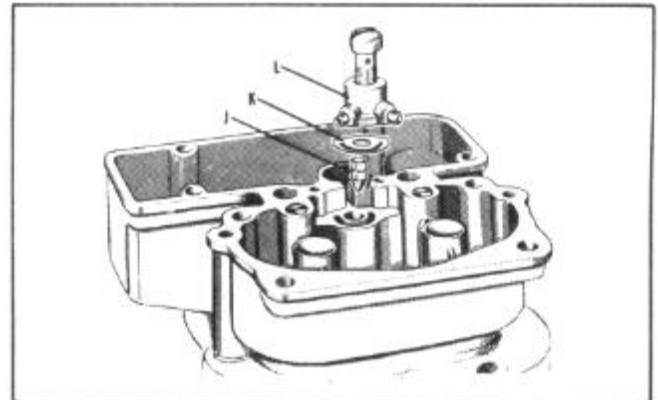

FIGURE 72
8. Install discharge check needle (J), Figure 72, gasket (K) and pump jet cluster (L) and screw. (Use new gasket.)